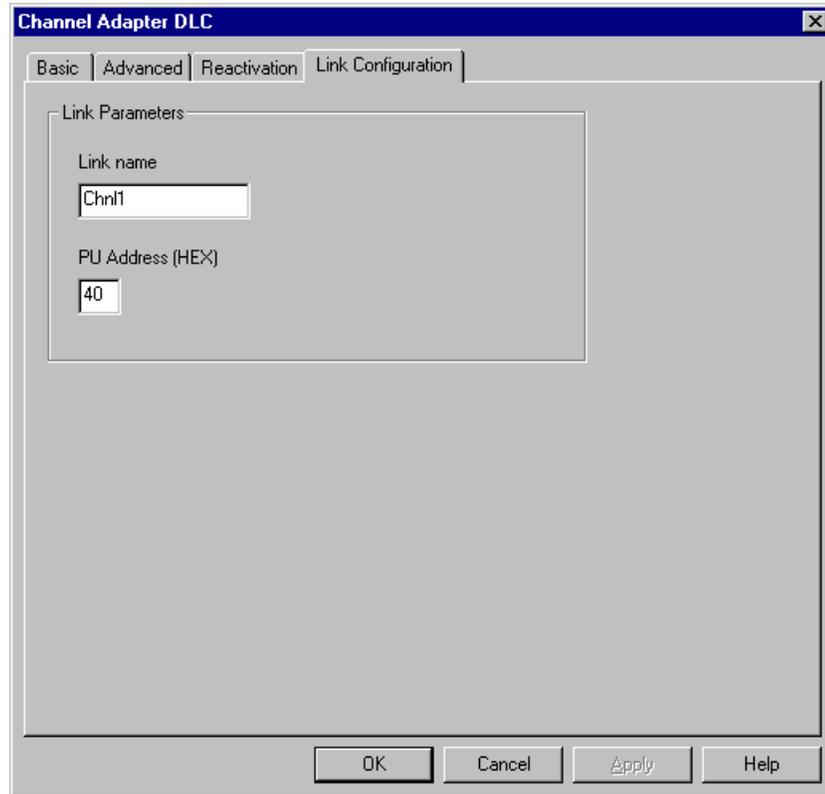

Figure 7-21. Link Configuration
You may define a **PU Name** to this connection. If you do not enter a PU name it will default to the Link name as entered on the Link Configuration screen (Figure 7-21).
3. For standard connections click on the **Link Configuration** tab (Figure 7-21).